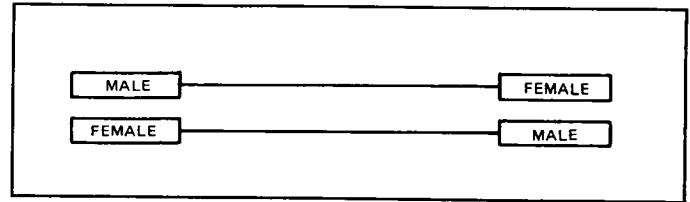
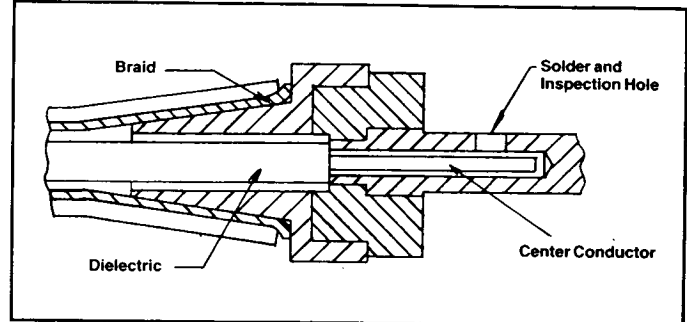

Figure 3
Figure 4
4. Contacts, one male (item 11) and one female (item 12), are assembled on each cable. (Figure 3) Slide items 11 and 12 over dielectric and under the braid of their respective inner cables. Center conductor should be visible in contact inspection hole. Solder center conductor to contact thru solder hole and remove excess solder. (Figure 4)